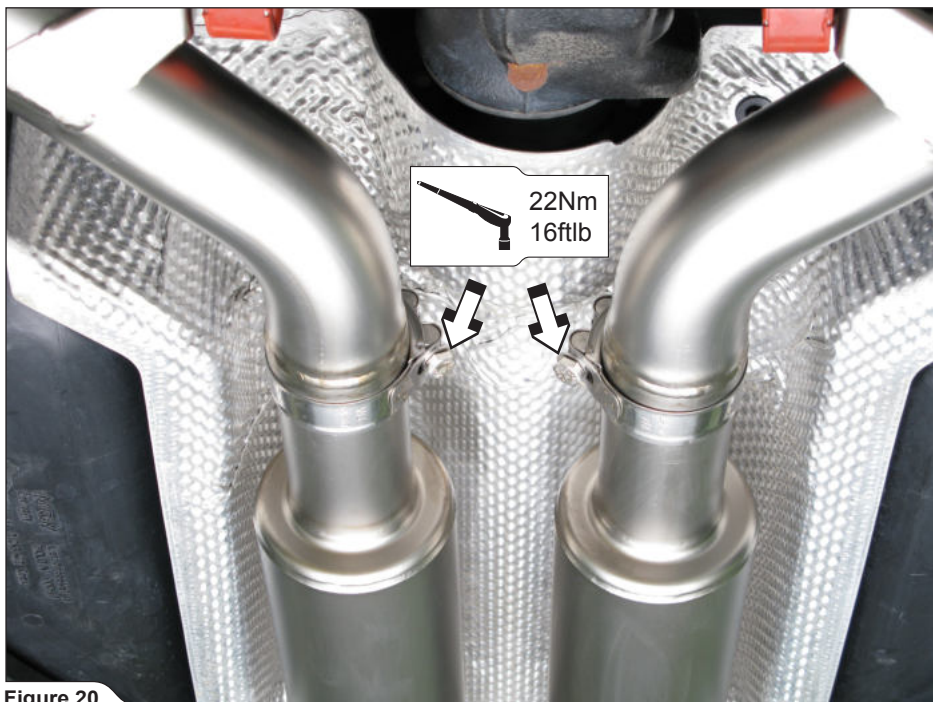

Figure 20
10. **For Evolution:** tighten the metal clamps on middle pipes-muffler pipes connections to a specified torque (**Figure 20**).